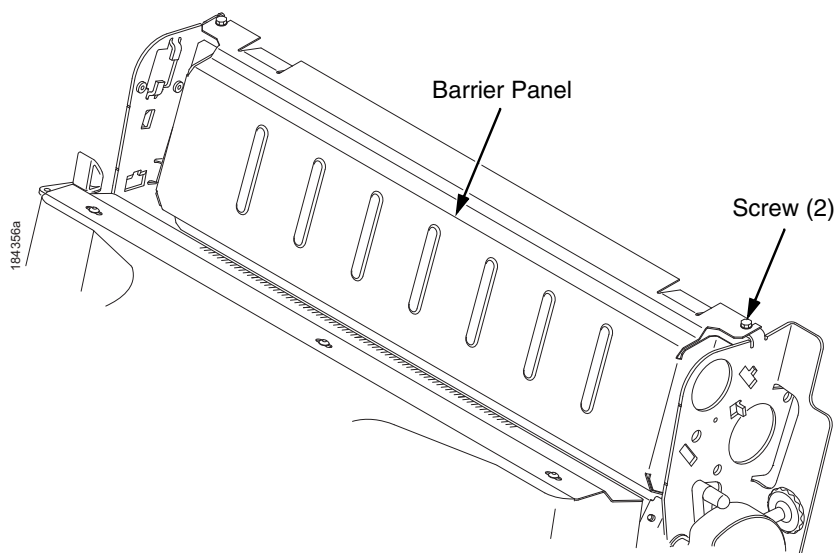

Figure 114. The Barrier Panel
2. Loosen (do not remove) the two #2 Phillips hold-down screws on the rear of the printer. (See page 532, item 4.)
4. Loosen the screws in the top corners of the barrier panel. (See Figure 114.)